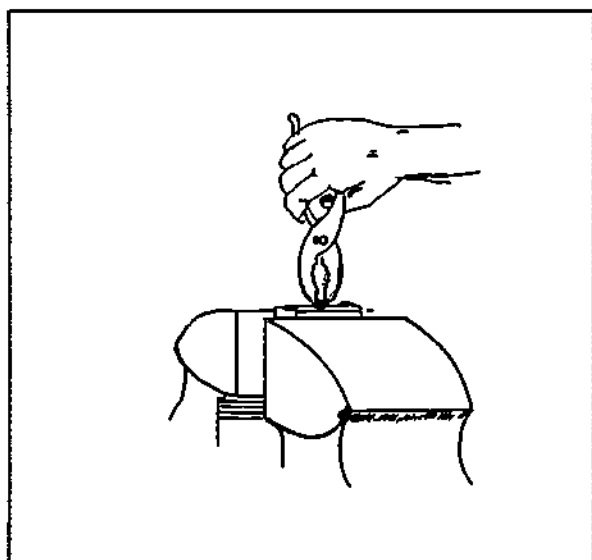

Figure 2-72.
**Working a Broken Tap Loose** If a piece of the tap extends above the hole, grasp it firmly with a pair of pliers or vise grips and work it back and forth to loosen it (Figure 2-72)